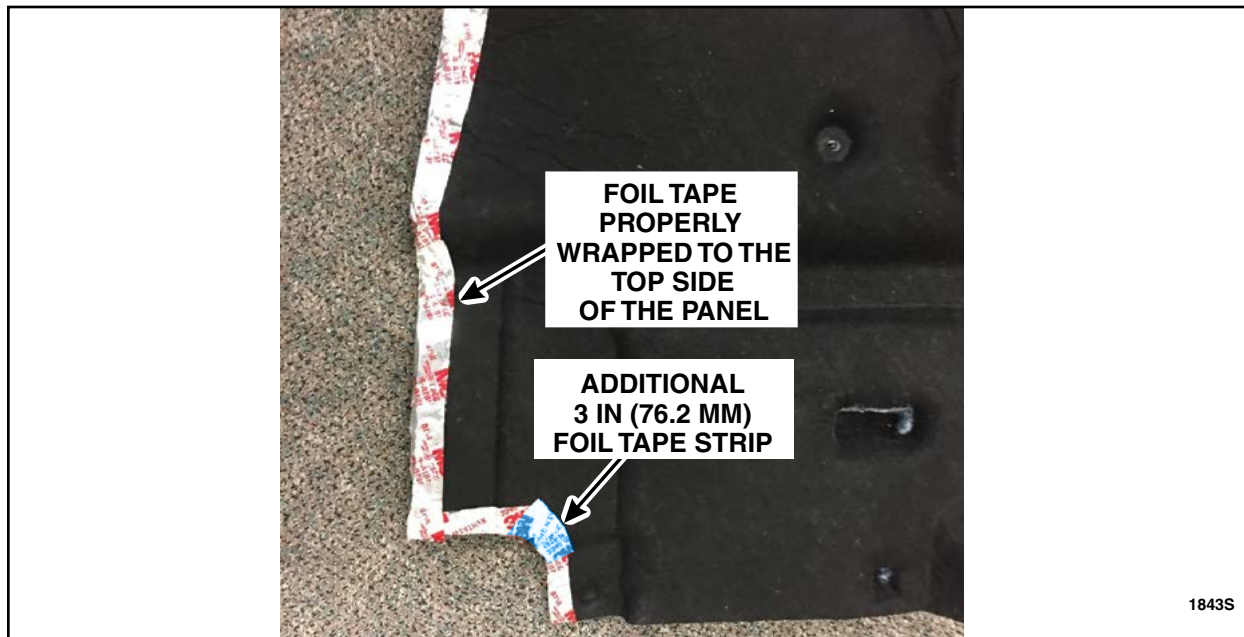

FIGURE 13
8. Apply an additional 3 in (76.2 mm) length of foil tape to seal the corner. See Figure 13.